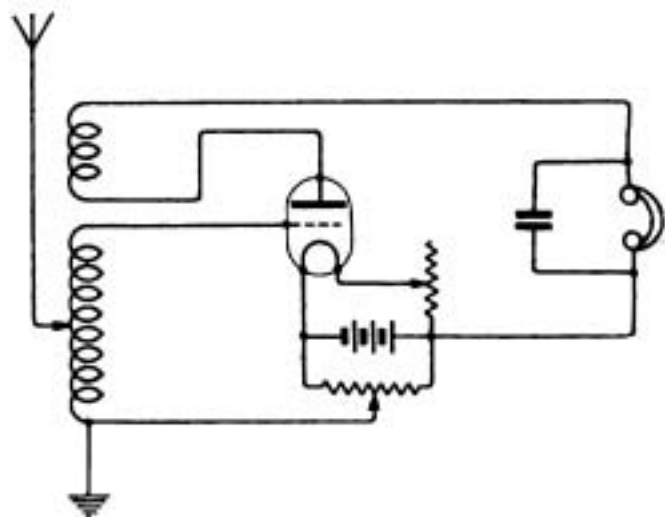

Fig. 2.
J.L. (Rothsay) asks (1) Why his crystal set will not give signals. (2) What instruments will be necessary to add a valve. (3) A diagram of connections.
(1) We cannot say at all, as you do not give us any information as to how your circuit is arranged.
(2) Valve holder, filament resistance, potentiometer, low and high resistance batteries, and additional coil and condenser.
(3) The simplest circuit of much use is given in the diagram (Figure 2).